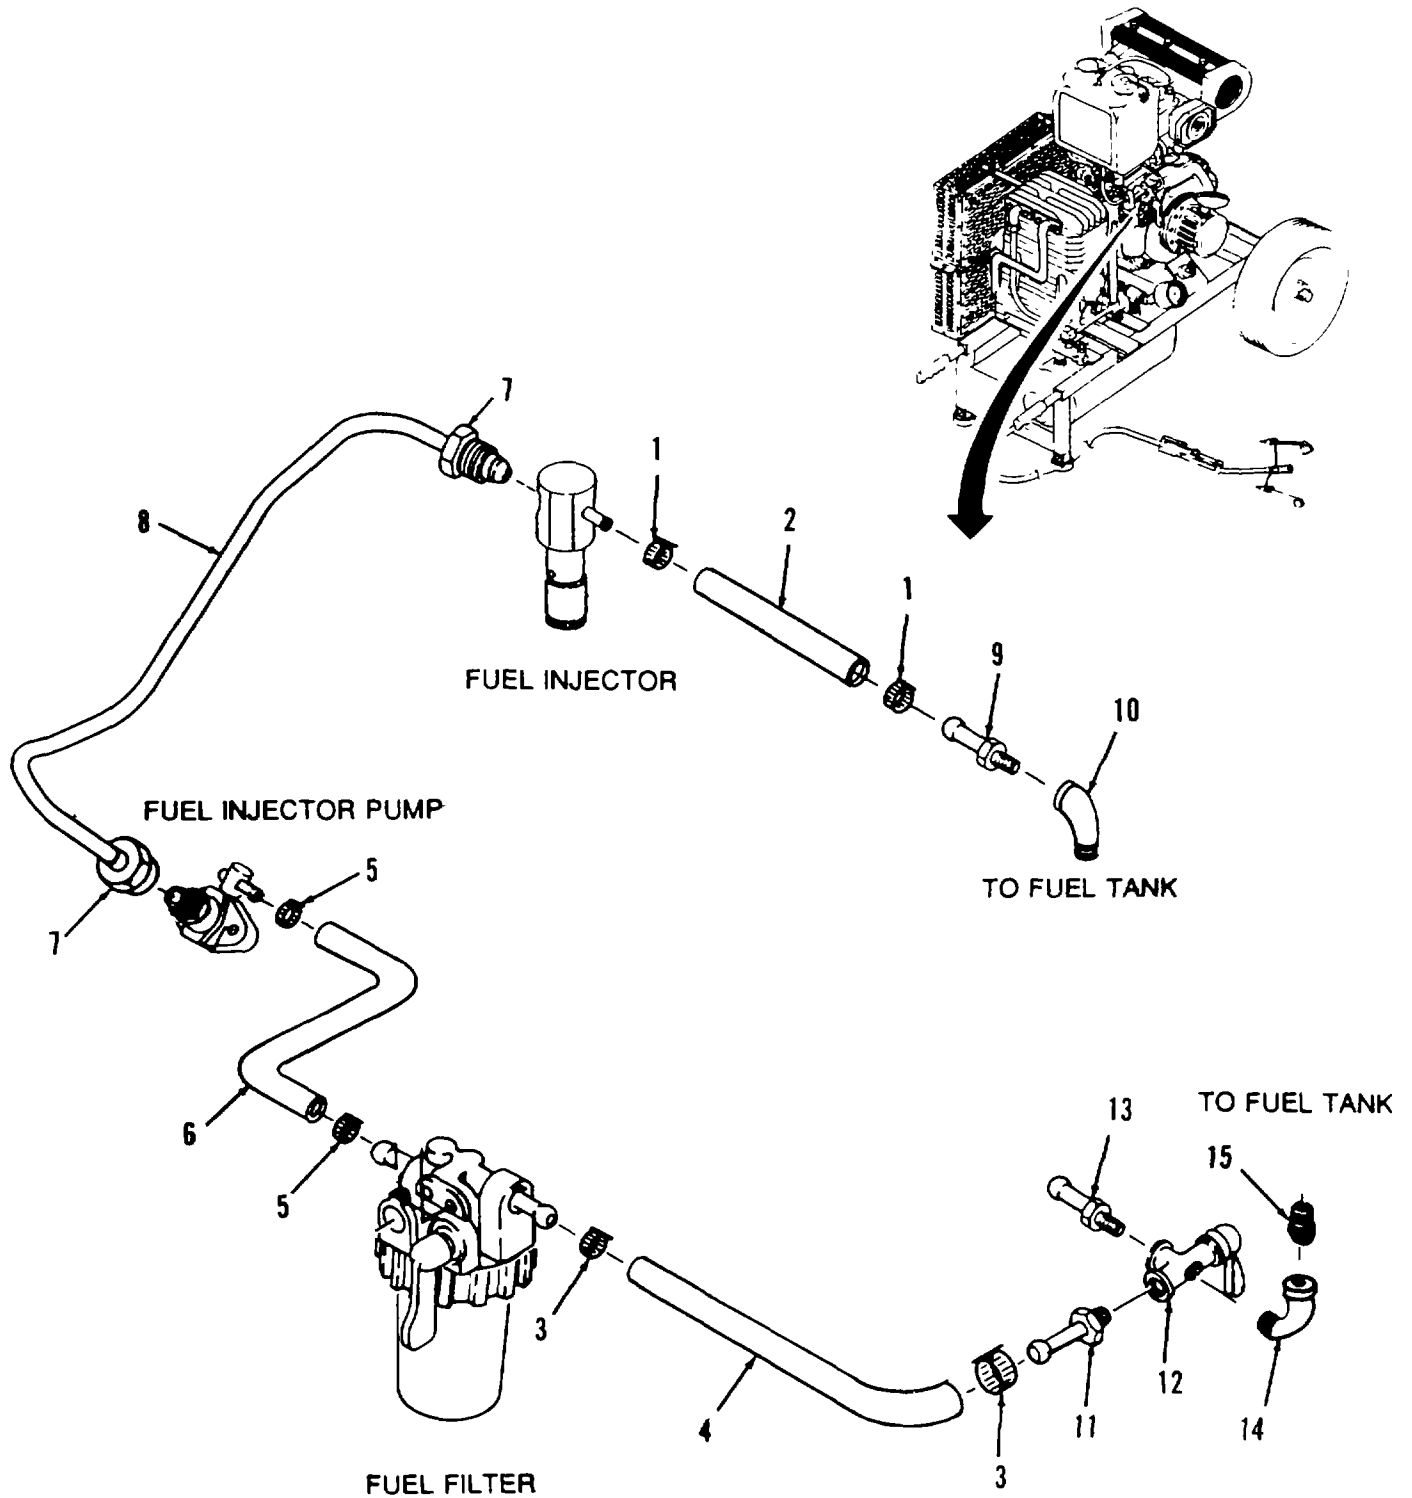

Figure 4-7. Fuel Lines and Fuel Valve Replacement.
- a. Removal** (Refer to Figure 4-7).